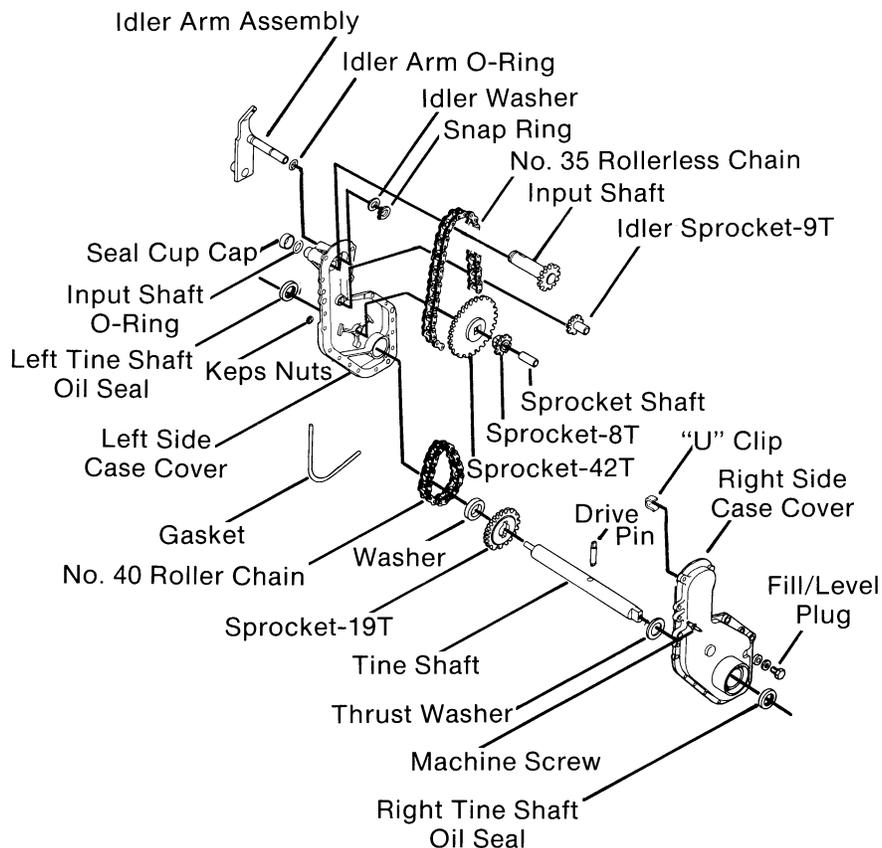

FIG. 23
DISASSEMBLY: (Fig. 23)
- G. For ease of disassembly, remove remainder of chain case parts in this order: (Fig. 23)
ASSEMBLY: (Fig. 23)